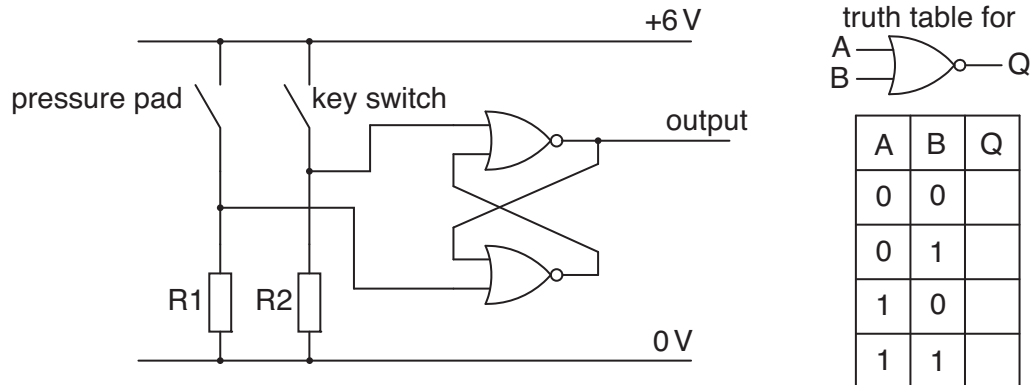

Fig. 10
- 3 A simple alarm system for a garden shed uses a pressure pad to operate a latch in the circuit. The latch is reset with a key switch. Fig. 10 shows the latching part of the circuit and the truth table for the logic gate used.
- (ii) Complete the truth table in Fig. 10 for the logic gate used.